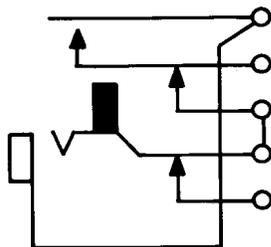

Fig. 16—485C Jack
2.11 485C: This single-mounted jack (Fig. 16) is intended to be mounted with the springs in a vertical plane. This jack is designed to be used with the 347 or similar-type plugs. The 485C jack replaces the 236E jack.